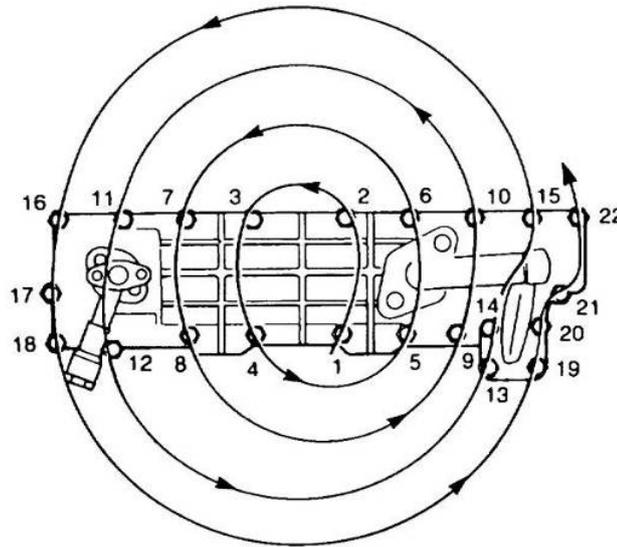

Figure 42 Oil Cooler - Tightening Sequence
- c. Install a new gasket on the oil cooler housing and hold the gasket in position with retaining bolts at each end. Position the oil cooler on the engine block and secure it with the retaining bolts in the positions noted on removal. Torque the bolts to 20 to 30 N.m (15 to 22 lbf.ft) in sequence (Figure 42).